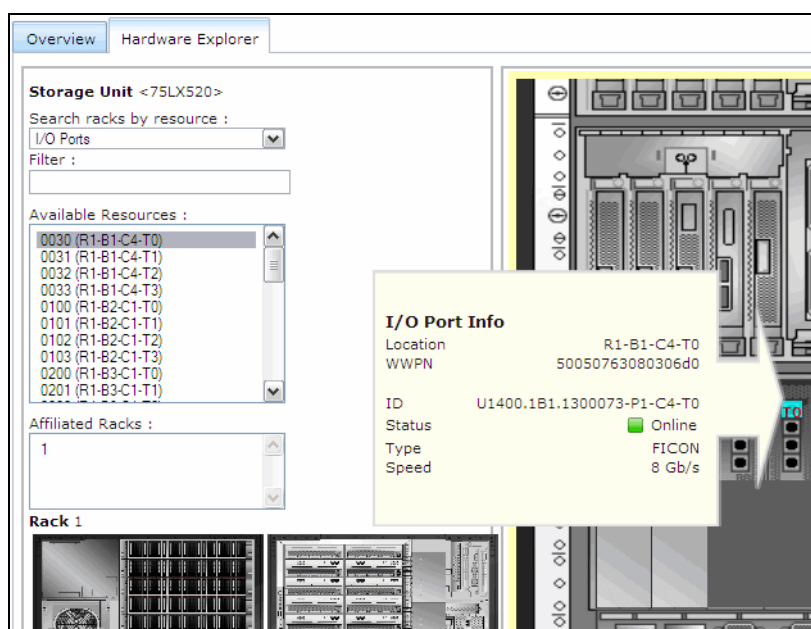

Figure 13-73 View I/O ports
- Another useful function in the Hardware Explorer GUI section is to identify the physical location of each FCP or FICON port. Change the search criteria to **I/O Ports** and select one or more ports in the **Available Resources** section. Use your mouse to move the yellow box in the rack image to the rear DS8000 view (bottom pane), where the I/O ports are located (Figure 13-73).